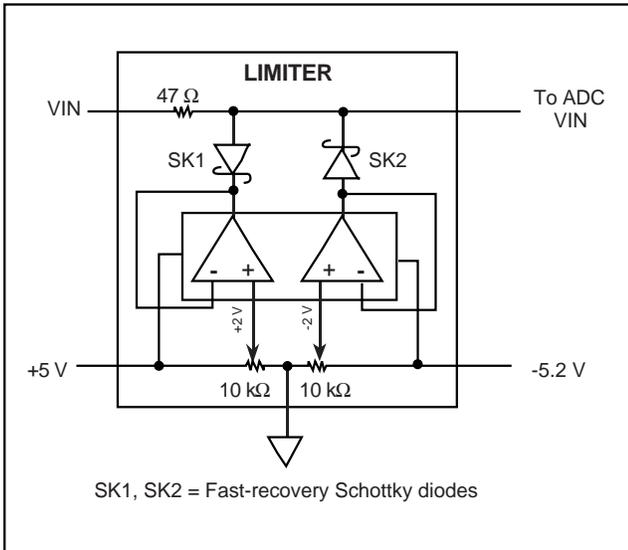

Figure 12. An Example of an Input Limiter
- The limiter is required if the analog input's maximum peak-to-peak voltage exceeds ±2.5V. Incorporate this limiter within the analog input driver, or use the circuit shown in Figure 12. Another option is to add a 100Ω resistor in series to current limit the input. This last option adds another LSB error to both plus and minus full scale, compared to only 1/2LSB when using the circuit shown in Figure 12.